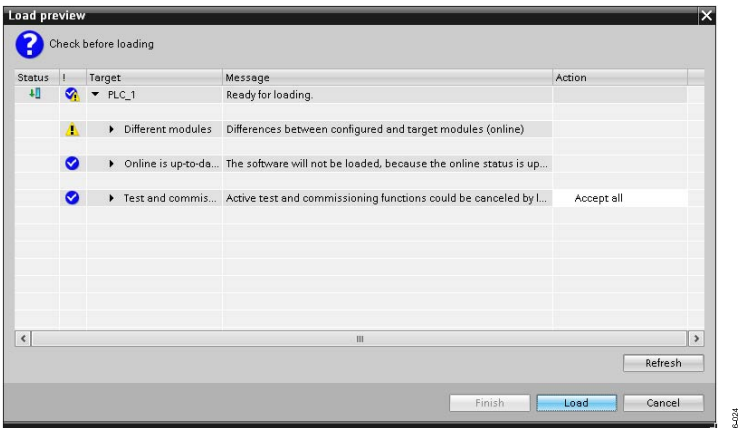

Figure 87. Load Preview Window
4. In the **Load preview** window, click **Load** (see Figure 87).